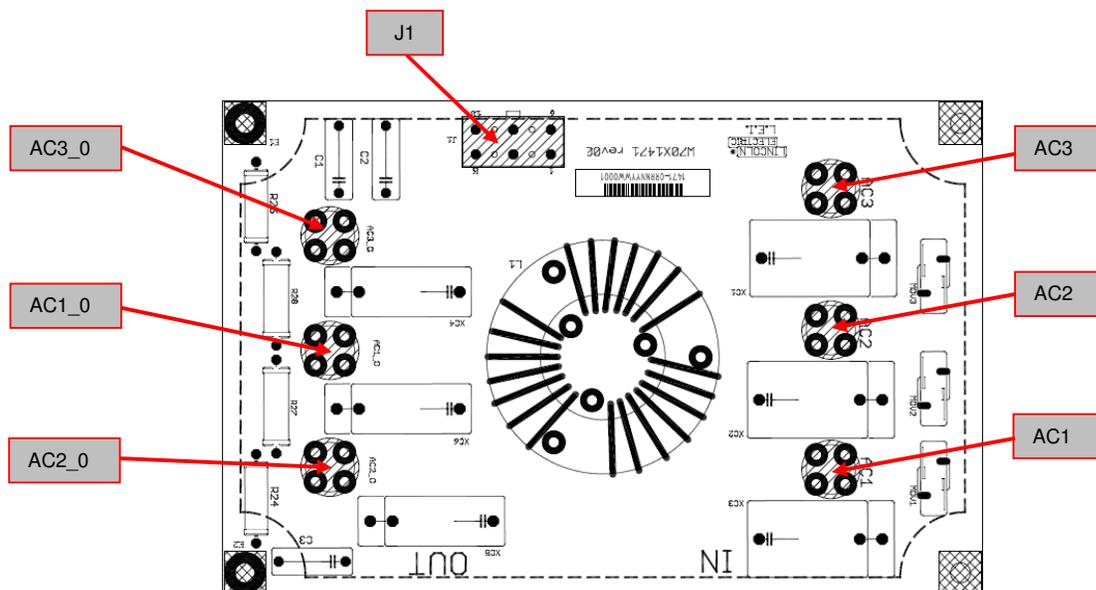

Figure 2 – W05X1471 – EMC FILTER BOARD
5. Using the Volt-Ohmmeter (ohm mode) perform the tests as indicated in **Test Table 1**. See **Figure 2** for correct test points location.
7. Switch to ON position the main switch and using the voltmeter in AC mode perform the tests as indicated in **Test Table 2**. See **Figure 2** for correct test points location.